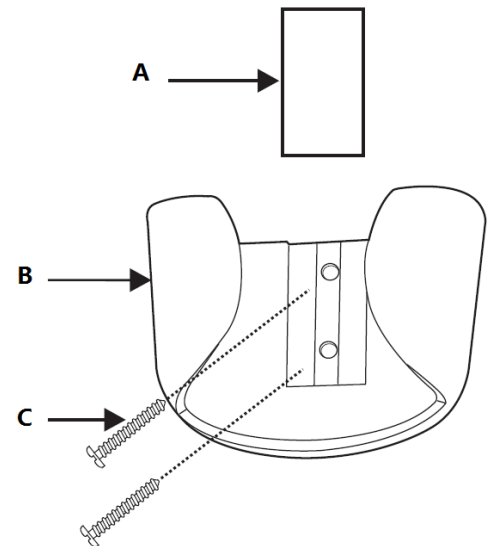

Fig. 14
Replace the cover (A) into holder (B). **Fig. 14**